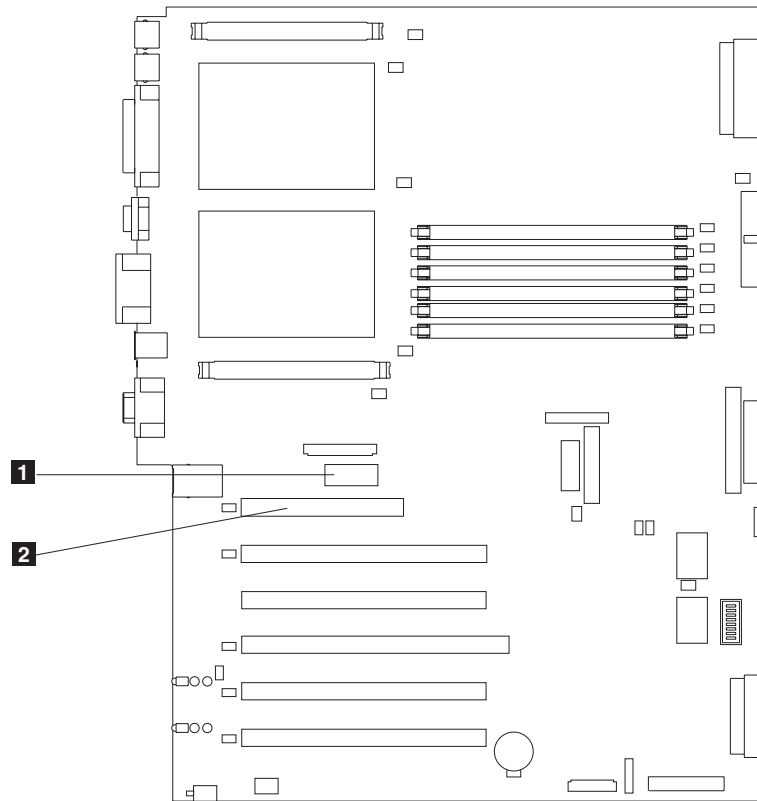

Figure 107. Remote Supervisor Adapter connectors on the system board
- b. Connect the other end of the cable to the system-management connector (J27) on the system board. Item **1** in Figure 107 on page 175 shows the location of the system-management connector on the system board.